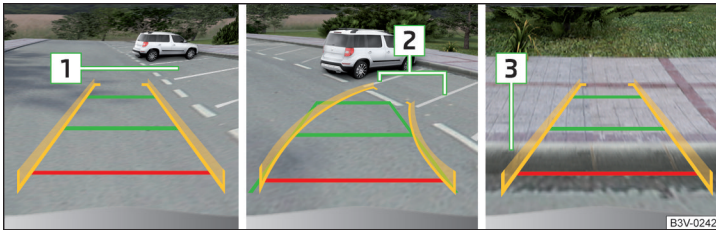

Fig. 283 Screen display
- At the selected parking space **1** » Fig. 283 slowly drive past and stop the vehicle.